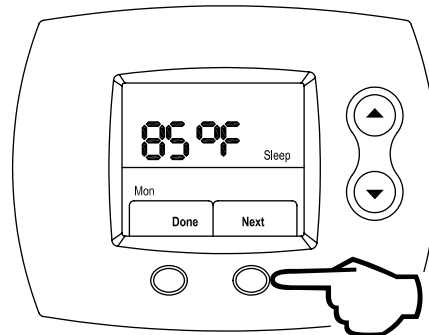

Figure 101
Step 27: Press the **RIGHT** (Next) button, as shown in Figure 101. Now, the Sleep time period is set for the day being edited. This completes the editing of one day of the Setback schedule. To change the schedule for the remaining days of the week, repeat the procedures beginning at Step 2 on page 40, for Tuesday through Sunday schedules. Otherwise, proceed to Step 28.